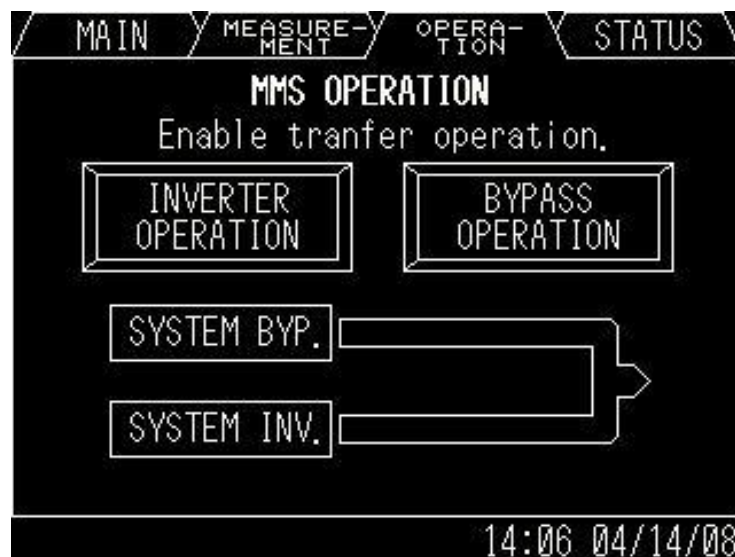

Figure 5-28 LCD Screen (MMS Operation)
1. Transfer MMS Bypass Operation to MMS Inverter Operation from Operation Menu on any UPS LCD as shown in Figure 5-28.
1. Transfer MMS Inverter Operation to MMS Bypass Operation from Operation Menu on any UPS LCD as shown in Figure 5-28.